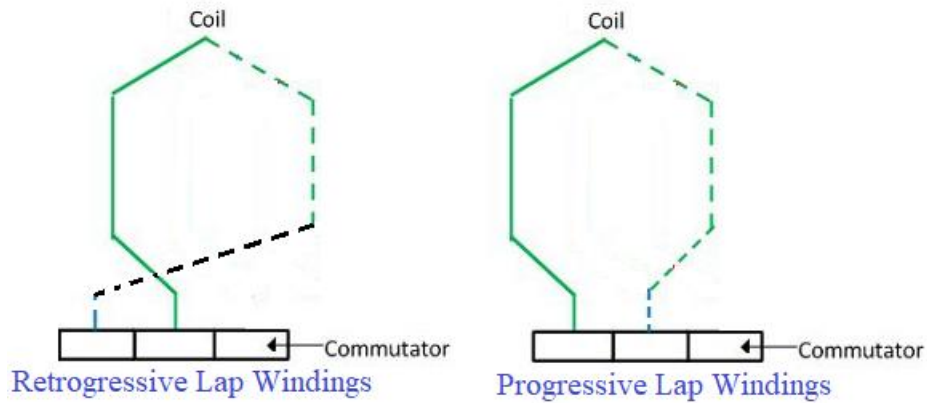

Fig. 25, Progressive and Retrogressive winding
- b) Retrogressive, (rarely used), as illustrated in Fig. 25.